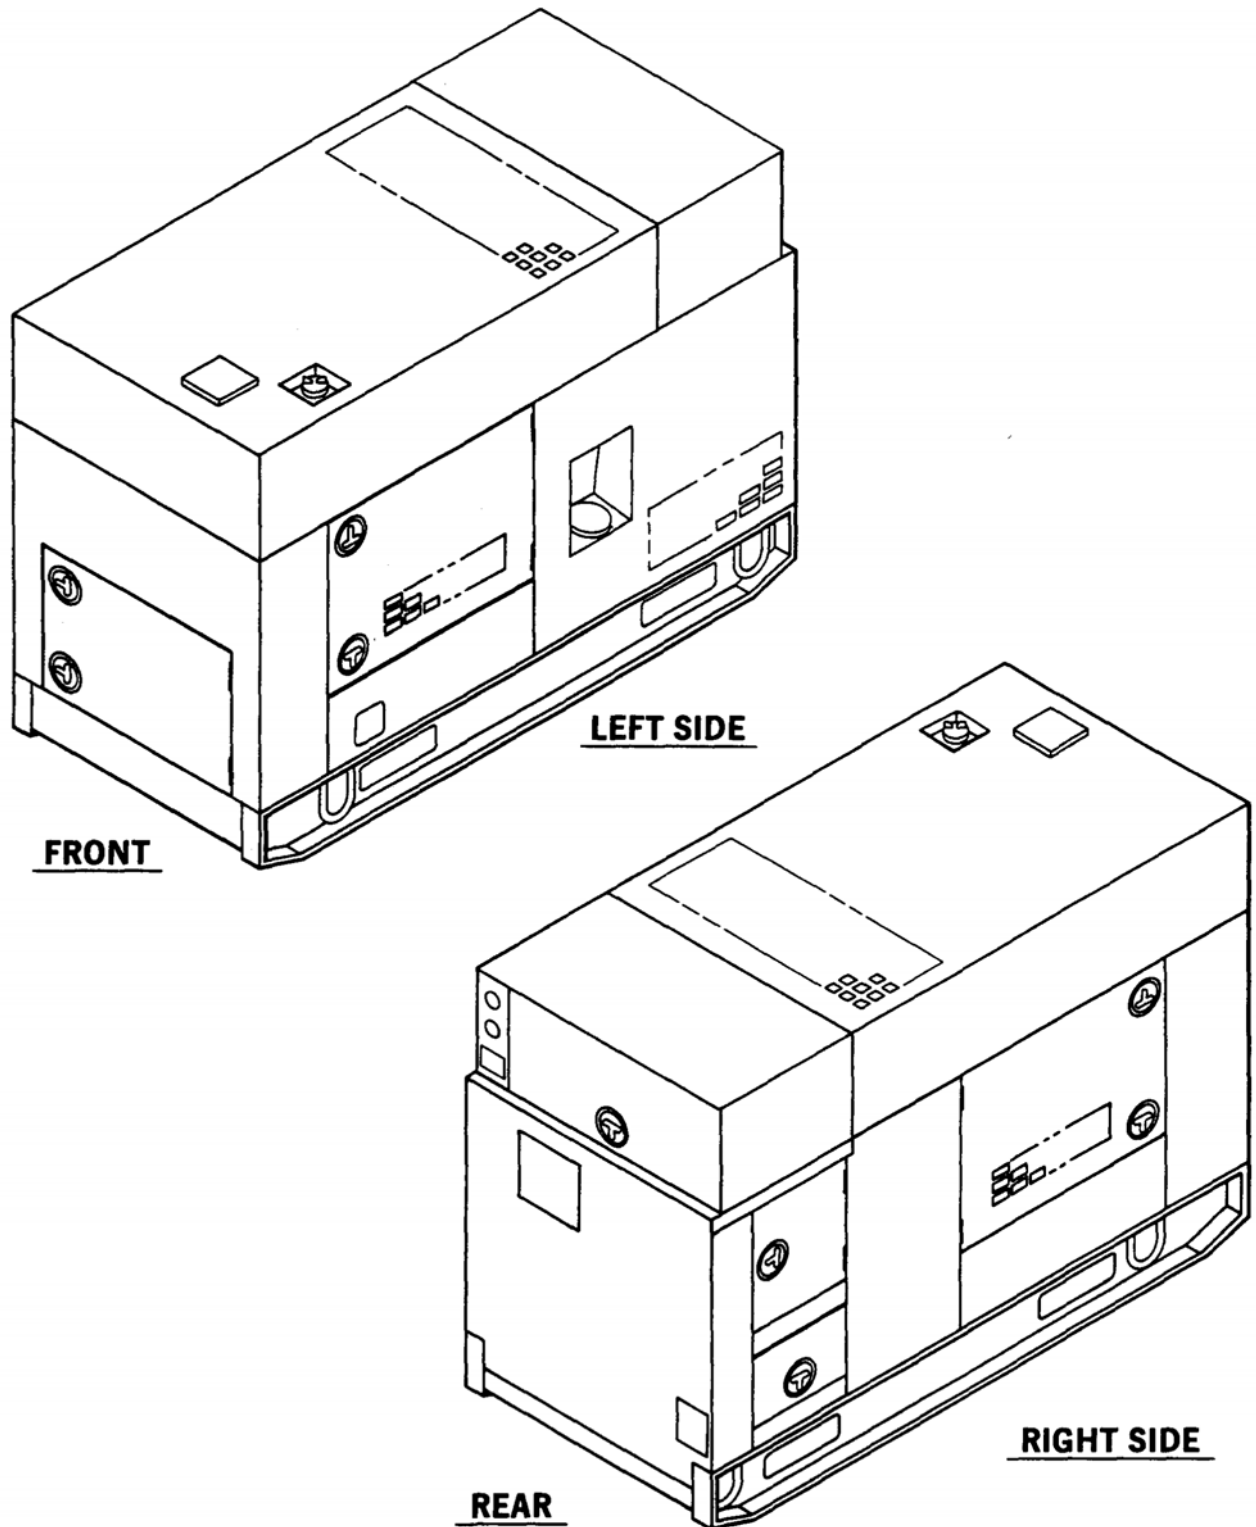

Figure 1. Generator Set, 15 kW, Tactical Quiet.
This manual contains operation and operator maintenance instructions for the Tactical Quiet (TQ), 15 kW 50/60 and 400 Hz Generator Sets (Figure 1), herein referred to as generator set. Included are descriptions of major components and their functions in relation to other components.